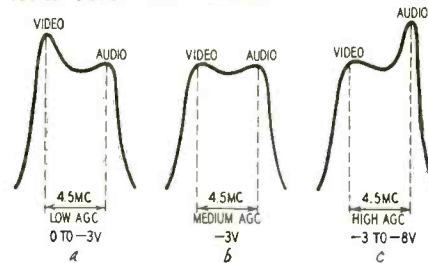

Fig. 2—Diagram shows the tilt characteristics of earlier tuner designs.
1. Improved tilt characteristic over the entire a.g.c. range. Fig. 2 shows typical response curves of previous
tuner designs. With a low level of a.g.c. signal, less than -3 volts, there has been a tendency to peak the video carrier as indicated by the left hump of Fig. 2-a. At the typical alignment bias level of -3 volts there is the desired response characteristic (Fig. 2-b) with two minor peaks for video and audio carriers. Still higher a.g.c. voltage has produced a response like that of Fig. 2-c where there is a marked tilt at the audio end of the curve.
Specifications of color TV receivers require that the amount of tilt be held to within $\pm 15\%$ over the entire range of a.g.c. voltages. As indicated in Fig. 2 conventional tuner designs have met this specification only in the middle of the a.g.c. range, with resulting deterioration of color reception in areas having either very strong (maximum a.g.c.) or weak (minimum a.g.c.) signals.